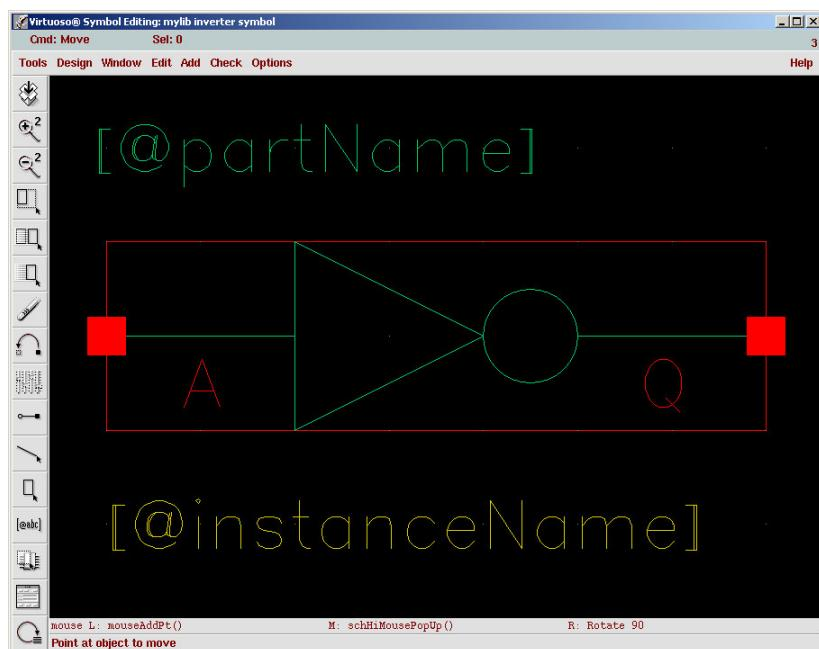

Figure 19. Inverter Symbol
4. Use the simple drawing commands to make an inverter symbol as shown in Figure 19. Use **Add**, then **Shape** for objects such as circles.